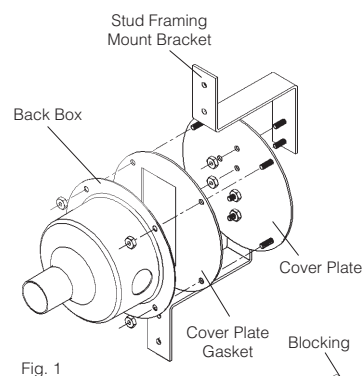

Fig. 1
- Install the (2) stud framing mounting brackets provided as shown in Fig. 1.